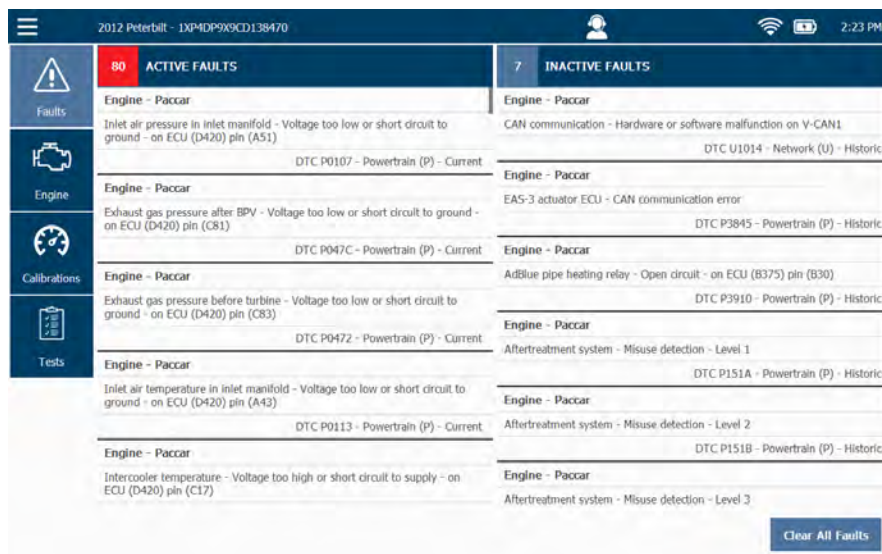

Figure 4.1 Diagnostics Menu
- 1 From the Diagnostics Menu (Figure 4.1), select the Parameters tab (e.g., **Engine**).